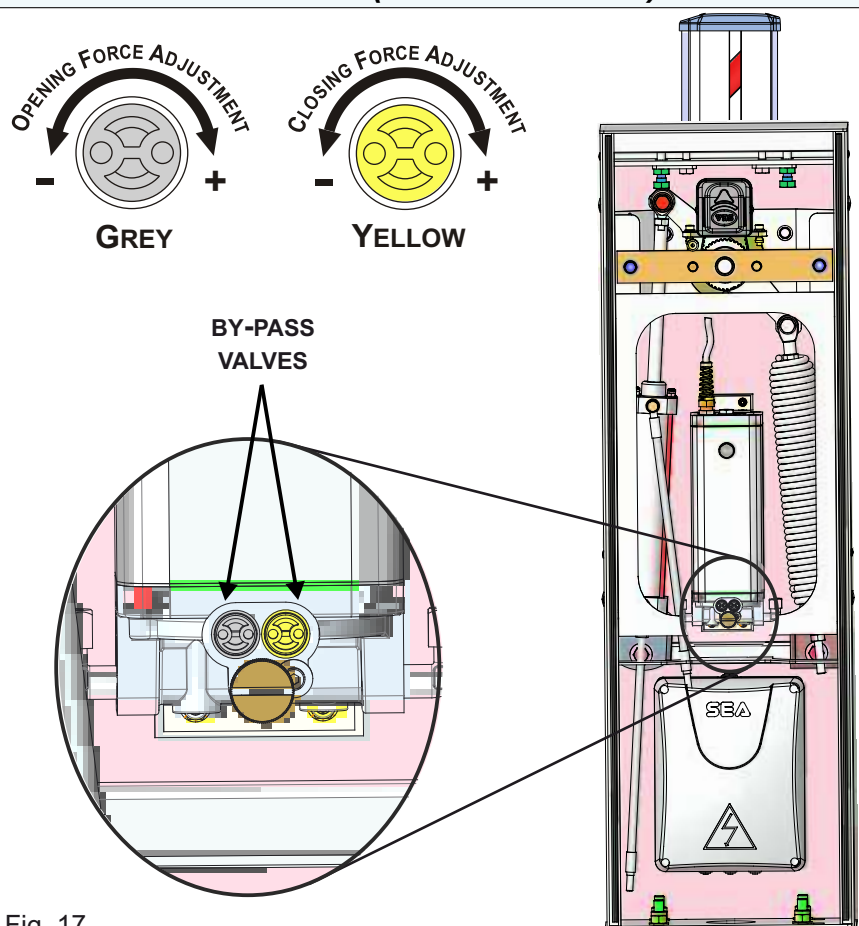

Fig. 17
9.1. If necessary, adjust the thrust force of the barrier through the By-Pass valves placed on the front side of the hydraulic unit - Fig. 17